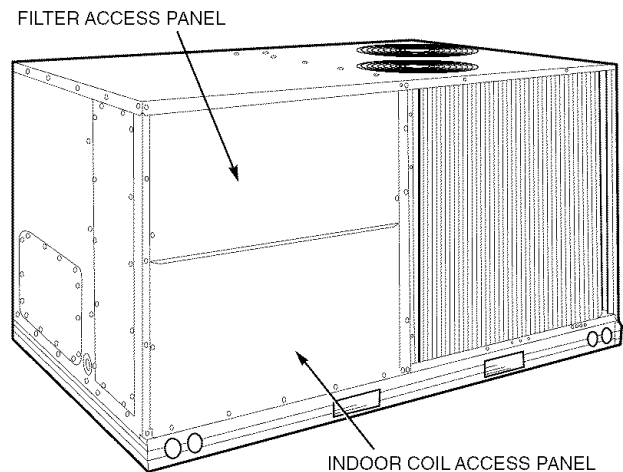

Fig. 21 — Typical Access Panel Locations
1. To remove the existing unit filter access panel, raise the panel and swing the bottom outward. The panel is now disengaged from the track and can be removed. See Fig. 21.